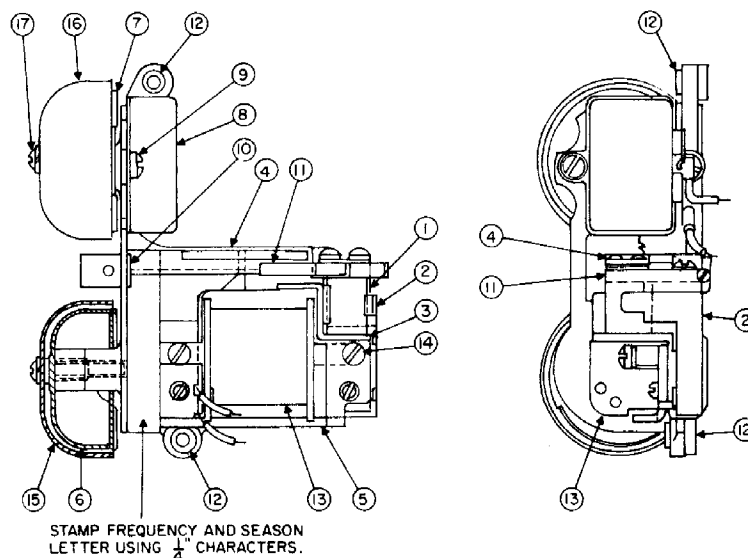

Figure 3. Type 42 and 44 Ringers.
6.01 The Type 42 (straight-line) and 44 (frequency) Ringers (Figure 3) are used in the Type 86, 87, Leich 100 and 700 series telephone sets. Both ringers are built on the same frame and employ the same coil. Each ringer has a single coil construction with a dc resistance of 3,800 ohms. The two types differ only in the style of armature used, and in the value of the associated capacitors, which mount on the ringer frame. Separate capacitor leads are provided to facilitate replacement. The Type 42 Ringer uses a 0.5 μ F ringer capacitor and the Type 44 Ringer uses capacitors of various values, in order to maintain proper impedance at the various operating frequencies. For super-imposed ringing service or to reduce inductive interference, gas-filled tubes are used in the Type 42 Ringers. See Tables 6 and 7 for description, part numbers, and ringer frequency information.
6.02 To disassemble the Type 42 or 44 Ringer (Figure 3), proceed as follows:
- (a) Remove the capacitor mounting screw (item 9) located at the front of the capacitor and slide the enclosed capacitor (item 8) forward.
- (b) Unscrew the gong mounting screws (item 17) from the bottom of the gong shell to free the gongs (items 15 and 16) and resonator assemblies (items 6 and 7).
- (c) Remove the two screws from the metal support of the armature assembly and separate the clapper rod, weight (item 10) and armature assembly (item 11) from the magnet (item 1).
- (d) Remove the two coil assembly screws (item 14) from the long, rectangular bar mounted through the coil to release the coil assembly (item 13).
6.03 To assemble the Type 42 or 44 Ringer (Figure 3) proceed as follows:
- (a) Mount the capacitor (item 8) on the left end of the L-shaped frame. Align the hook end at the rear of the capacitor to fit around the small post at the rear of frame. Install and fasten the capacitor mounting screws (item 9).
- (b) Place the resonator assemblies (items 6 and 7) inside the gongs (items 15 and 16) and insert the gong mounting screws (item 17) from underneath the outer gong shells. Slide both assemblies up the shank of the screw and position, then fasten.
- (c) Position the weight (item 10) clapper rod and bias spring into the open area located between the gongs. Situate the armature assembly (item 11) between the outer pole (item 4) and inner pole (item 3) then slide the armature assembly support to the rear and above the ringer base (item 2). Install and fasten the two armature assembly support screws.
- (d) Place the coil assembly (item 13) into the box-shaped opening in the upper right hand section of the frame. Position the metal bar of the coil assembly to the left of the two screws securing the pole tie assembly (item 5). Install and fasten the coil assembly screws (item 14) at each end of the bar.